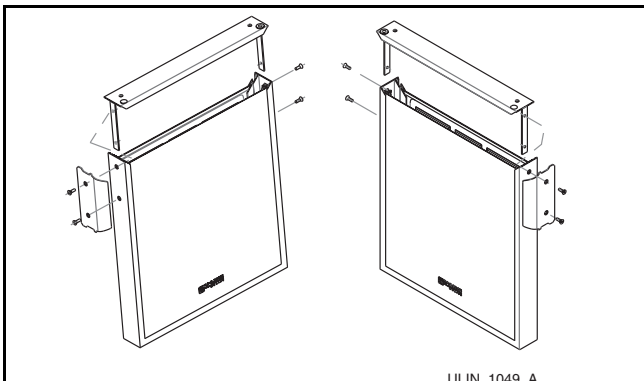

Figure 20
8. Using a Phillips screwdriver, remove the two screws holding the custom stainless handle from the original location, and remove the handle. Remove the two screws on the opposite side of the door (**Figure 20**). Do not place handle on door until you have completed steps 9 & 10.